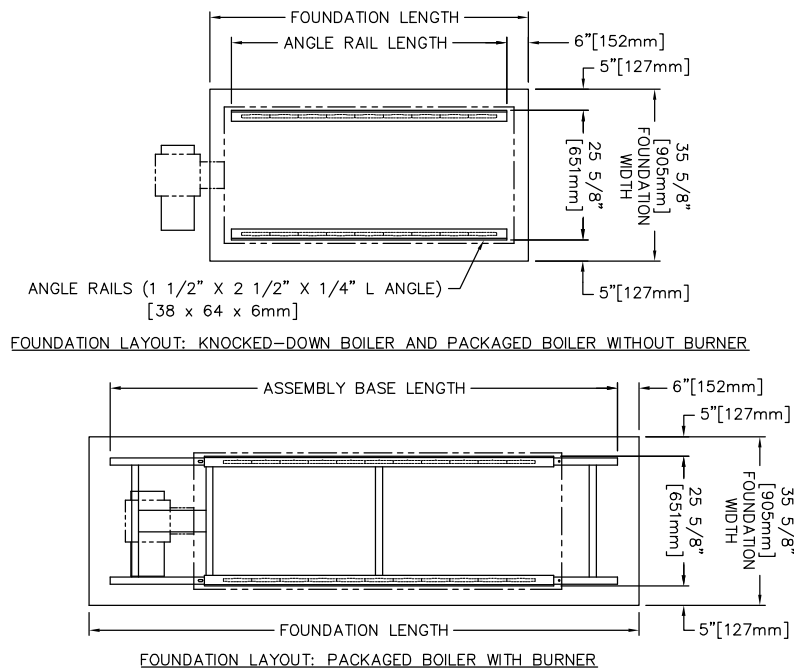

Figure 1.4: Foundation Layout
- a. Figure 1.4 shows the Foundation Layout for Knocked-Down Boilers and Packaged Boilers.